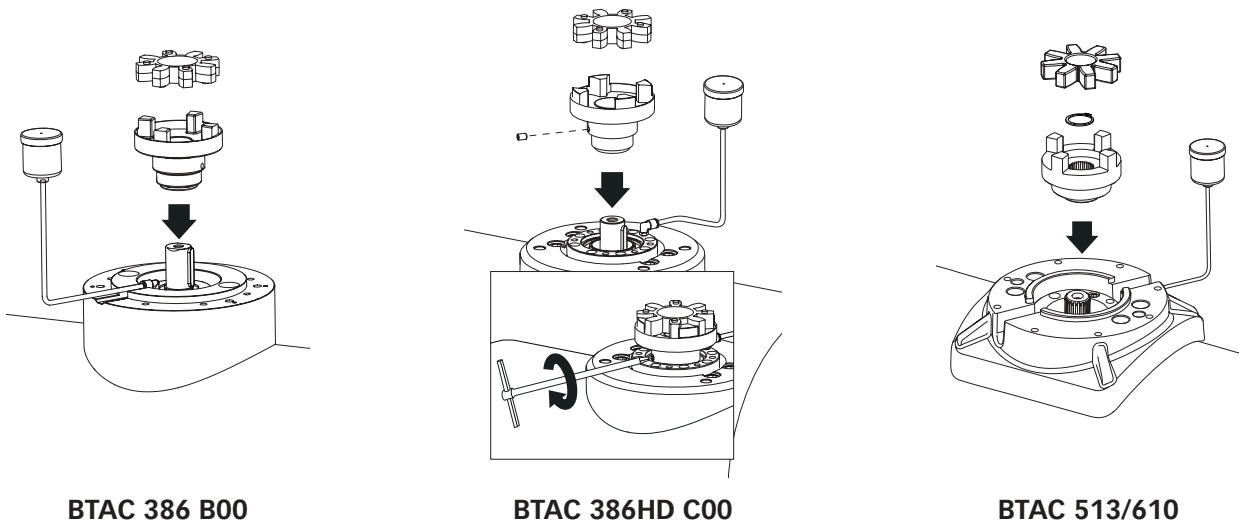

FIG.3
- **FIG. 3** Grease the terminal part of the drive shaft and fit the upper half-joint.